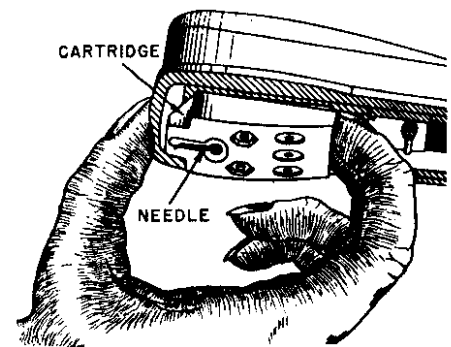

Figure 2 - Removing Cartridge by Pulling Down on Back Edge.
Remove the old cartridge (25) by getting your finger nails or a small screwdriver under it as shown in Figure 2 and pull down on the back edge. Press new cartridge into place again, making sure to push near its back edge where its pins go into the socket.